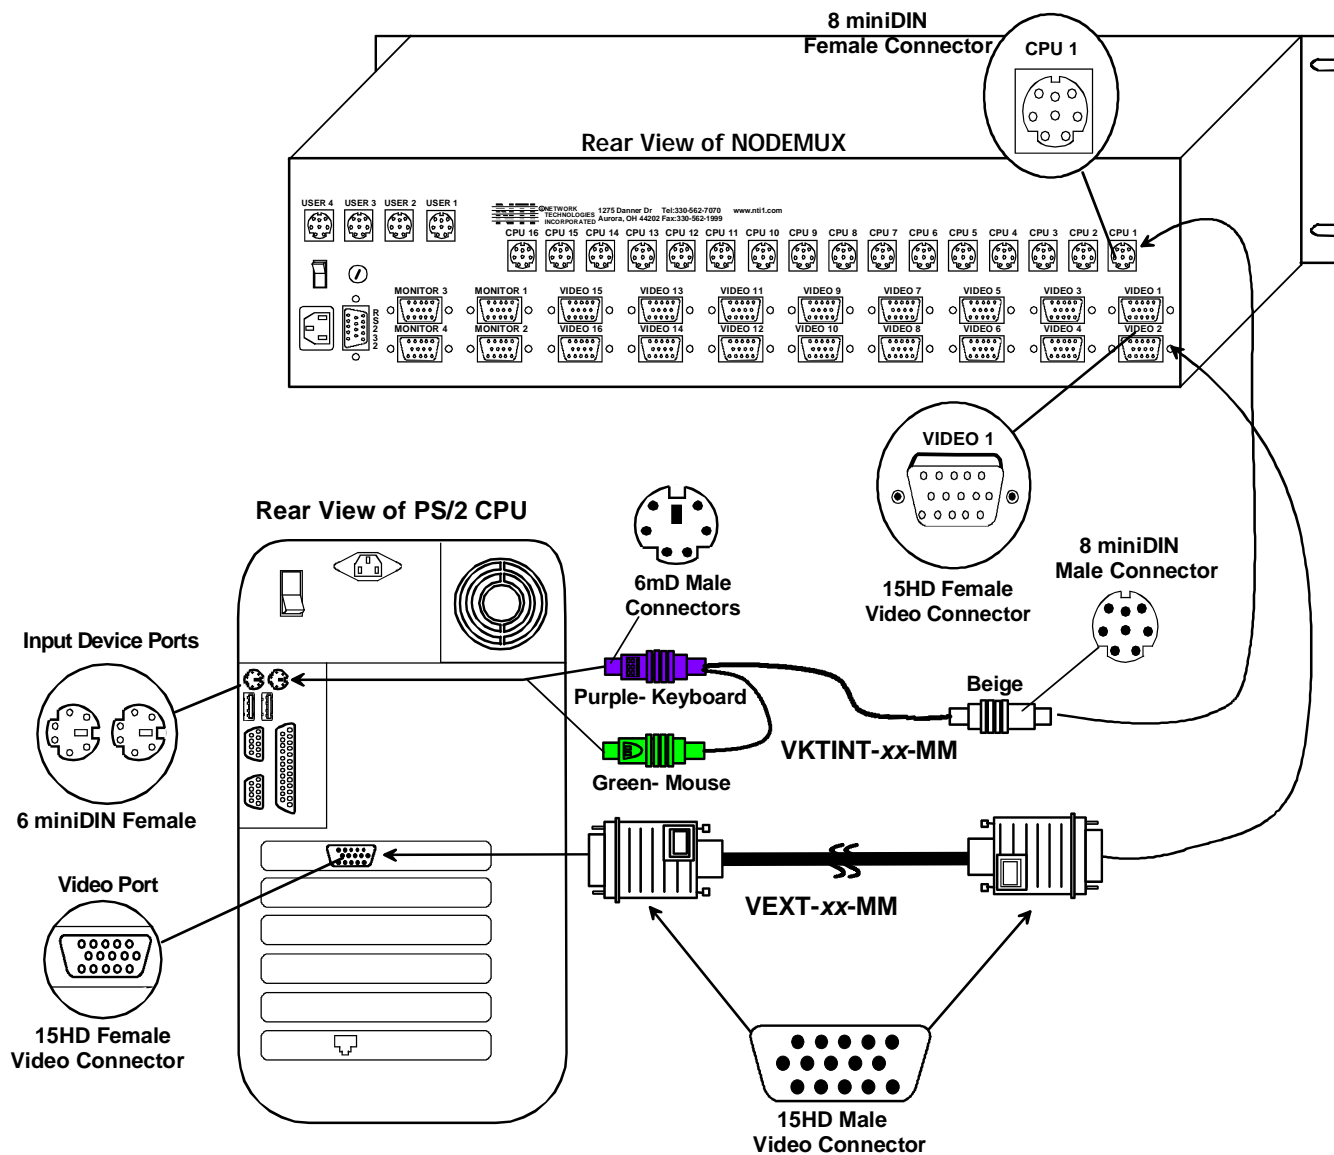

Figure 4- Connect PS/2 CPU to NODEMUX
3. **For each CPU:** Connect a cable from the Keyboard port of the CPU to a port labeled "CPU x" on the NODEMUX. (See Figure 4 on page 9 and Cable Selection Guide on page 10.) **Note the port's number.**